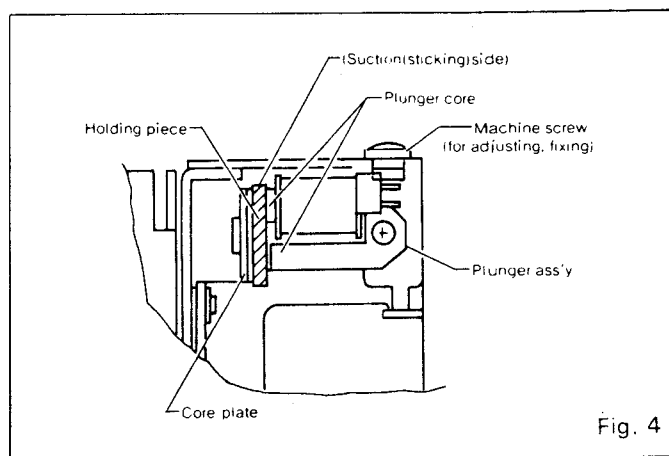

Fig. 4
4. Adjustment of Suction Plunger (See Fig. 4)